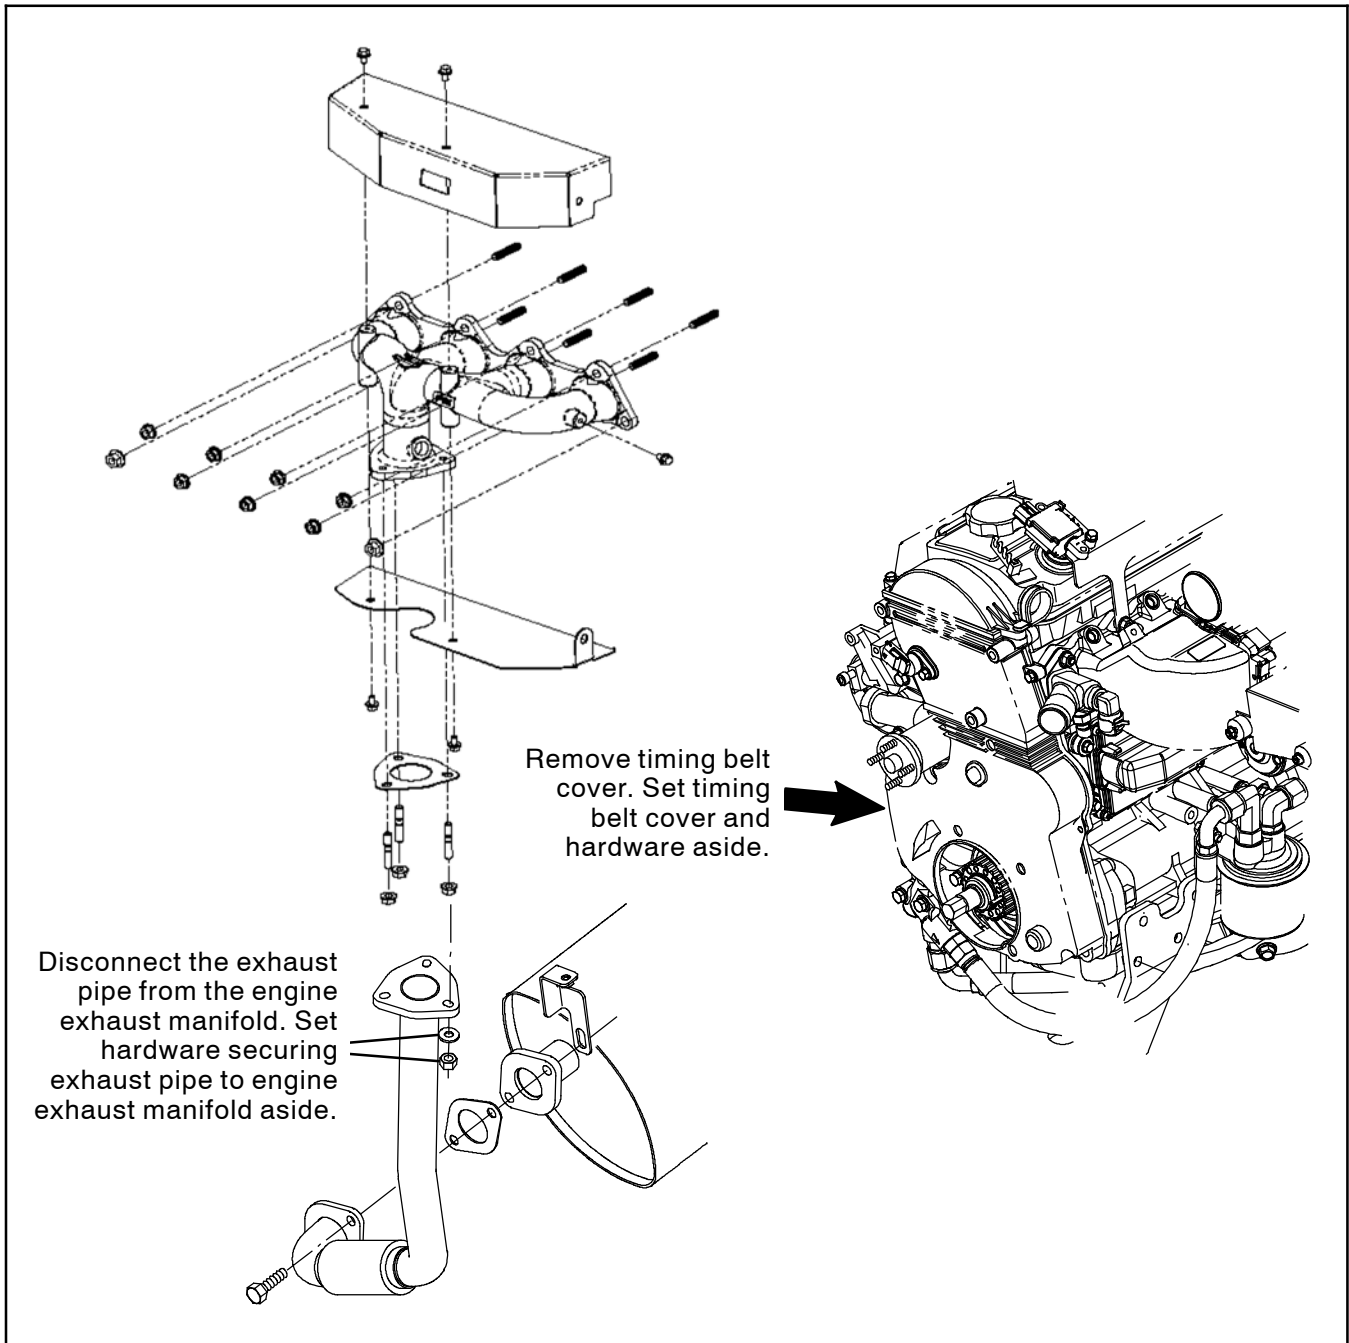

FIG. 5 - All Machines
8. **All Machines:** Disconnect the exhaust pipe from the exhaust manifold. Set hardware aside. (Fig. 5)
9. **All Machines:** Remove the timing belt cover from the engine. Set the timing belt cover and hardware aside. (Fig. 5)